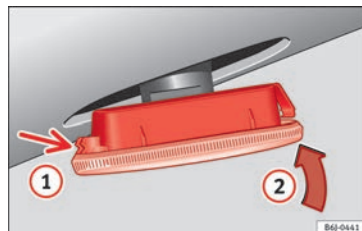

Fig. 193 Side turn signal.
- First place the turn signal in the opening in the bodywork, fixing the tabs » **Fig. 193**, arrow (1).
- Insert the bulb as shown by the arrow (2) » **Fig. 193**.